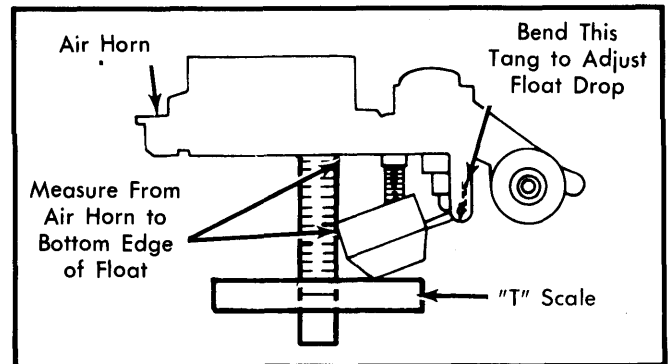

Fig. 2 Adjusting Float Drop
1) With air horn and gasket removed, turn air horn right side up. Allow float to hang. Using "T" scale, measure specified float drop from air horn gasket surface to bottom edge of float. See Fig. 2.